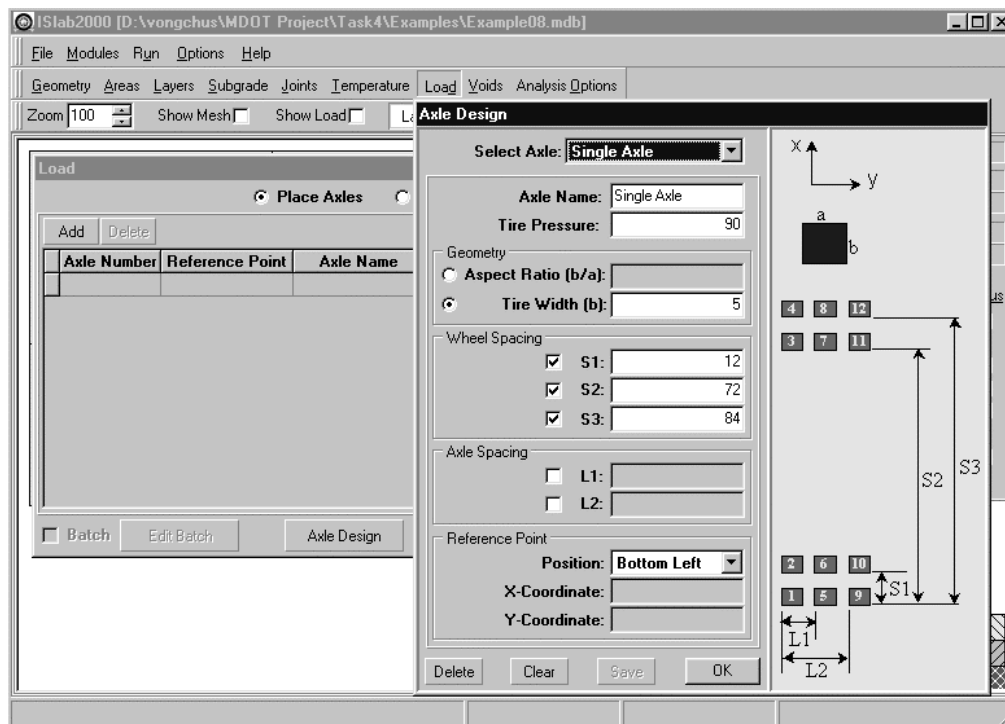

Figure E8-10: Edit Inputs for the Load Module
(see Figure E8-10 and E8-11)
- Step 2: On the load panel, click **Axle Design** to open the axle design panel (see Figure E8-10.) Enter “Single Axle” in the **Axle Name** field.
- Step 5: Enter wheel spacing information as shown in Figure E8-10.